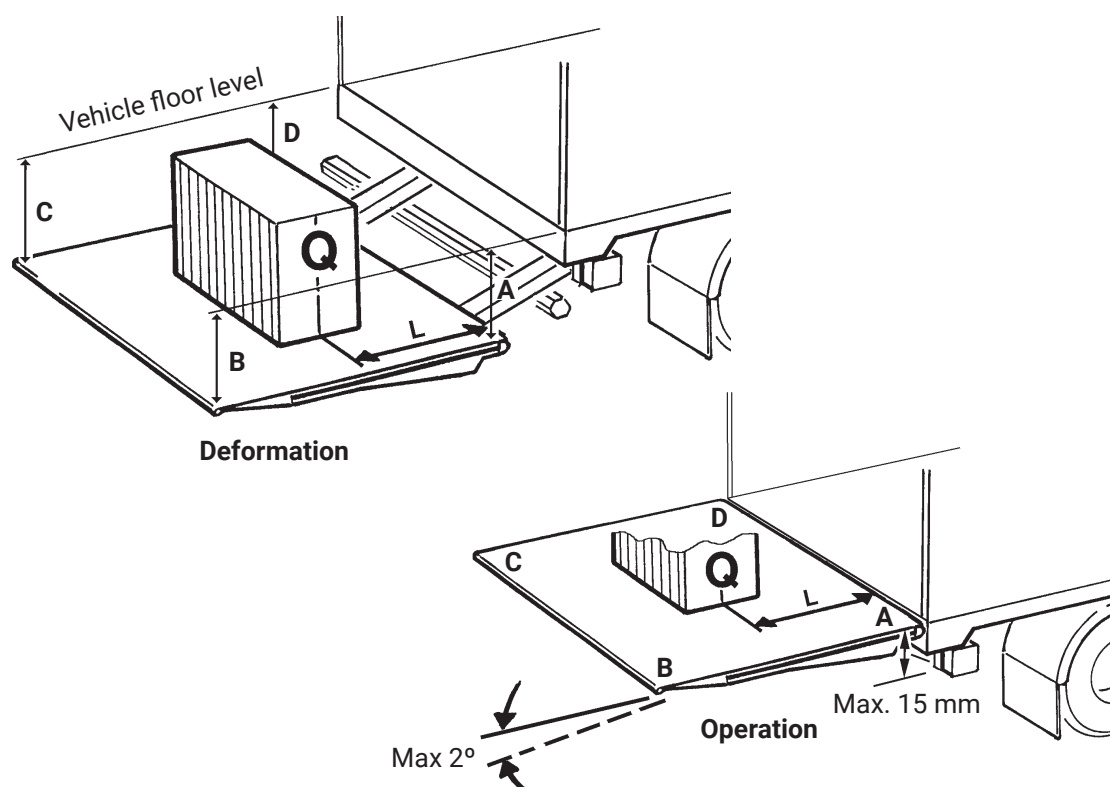

Figure 84. Testing and verification
- Position the tail lift half way to vehicle floor level and with the platform horizontal. Measure dimensions A-B-C-D for comparison as illustrated. Figure 84